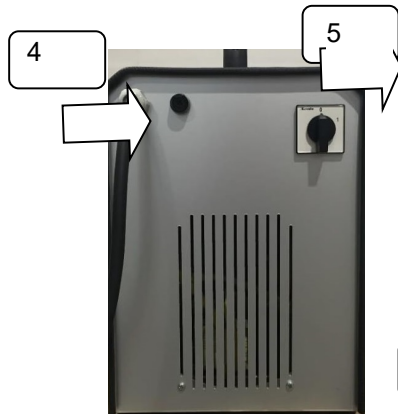

Figure 1
5. UNIT DESCRIPTION (Fig 1, 2, 3, 4)